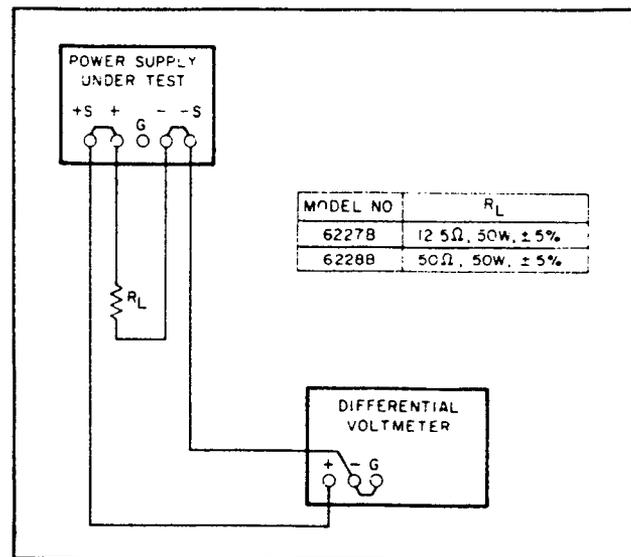

Figure 5-2. Constant Voltage Load Regulation Test Setup
- Connect load resistor ( $R_L$ ) indicated in Figure 5-2 across output terminals of supply.
- Connect test setup shown in Figure 5-2.
- Connect load resistance and differential voltmeter as illustrated in Figure 5-2.